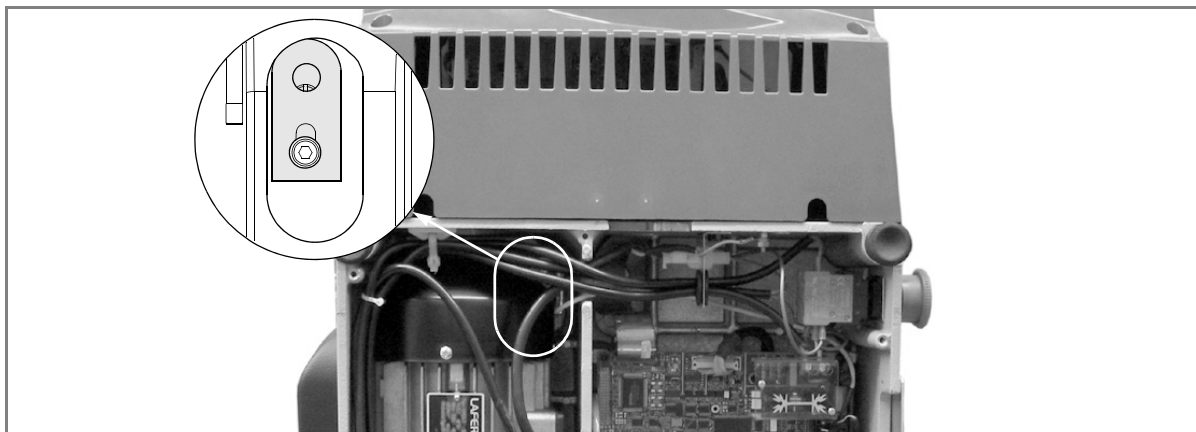

Fig. 56
- 3) disconnect the X axis sensor's connector from the electronic circuit board (fig. 56).